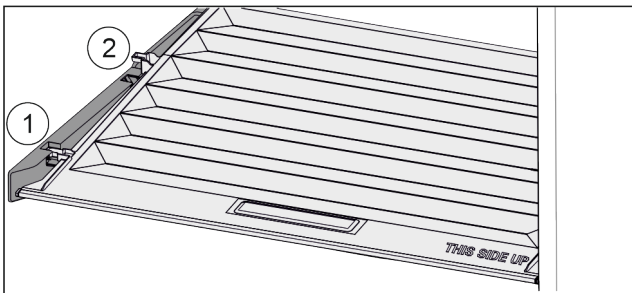

Fig. 71
- ▶ Pull the lid up at the front to the opening in the retaining parts Fig. 71 (1).
- ▶ Lift from the back and pull it up and out Fig. 71 (2).